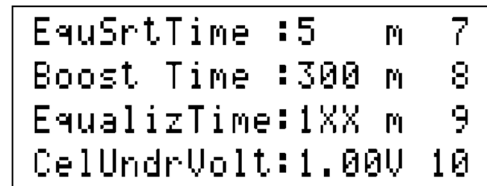

Figure 3: Parameter list (editing)
- Press Enter button to enable editing for the selected parameters, the parameter value is transformed to XXX symbol and buttons function is transformed to numbers, the most significant digit is entered first then the lower after (left then right) as illustrated in Figure 3.